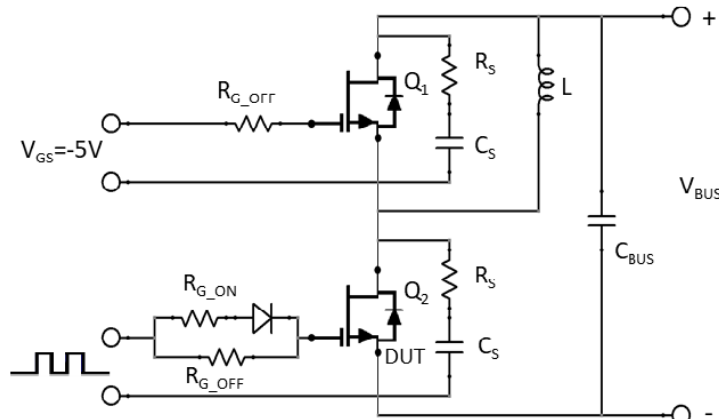

Figure 29. Clamped Inductive Load Switching Test Circuit. An RC Snubber ($R_S = 5$ Ω and $C_S = 330$ pF) is required to Improve the Turn-off Waveforms.
6. The switching performance are evaluated with a RC snubber circuit as shown in Figure 29.